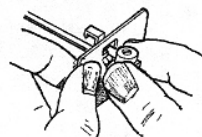
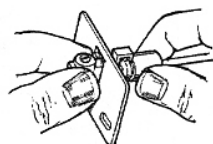

Figure 16
Figure 17
3. Slide claw onto end of new sensing rod and tighten set screw. Insert sensing rod and claw into slot of guide plate from the front. Raise claw to the top of slot where pins can pass through. With a pin in front and one behind guide plate, lower claw half way down in the slot. Holding this assembly as shown in Figure 16, slide *counter weight (if required) onto free end of sensing rod and push against claw until it locks in place, as shown in Figure 17. Still holding the assembly as before, pass the sensing rod through the plate opening and into hole in the pivot washer. Position guide plate on front plate and replace screws. Claw is now free to move up and down in the slot but is restrained from moving in and out by the pins.